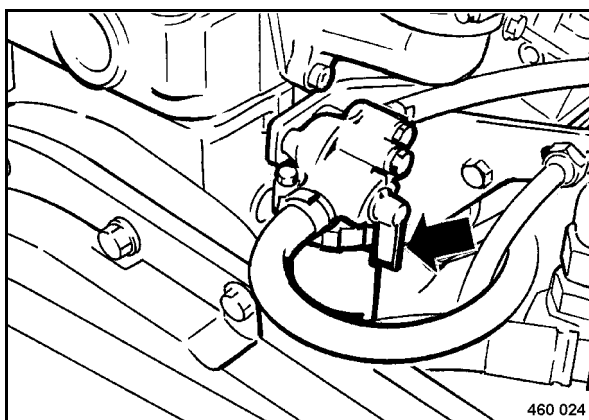

Fig. 34
- Check whether the fuel shut-off lever (Fig. 34) is pointing vertically down.